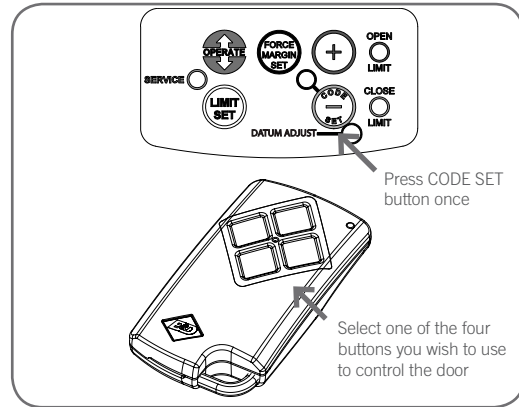

Fig. 33
- Press the CODE SET button and release. The CODE SET LED will illuminate to indicate the opener is in Code Learn mode. If a valid code is not stored within 15 seconds the opener will exit Code Learn (**Fig. 33**).